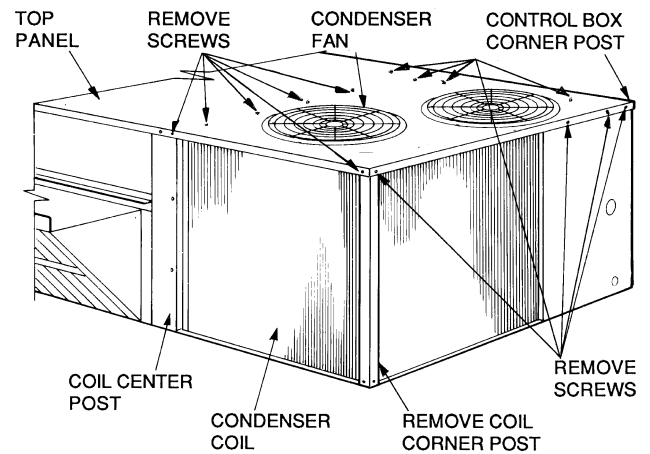
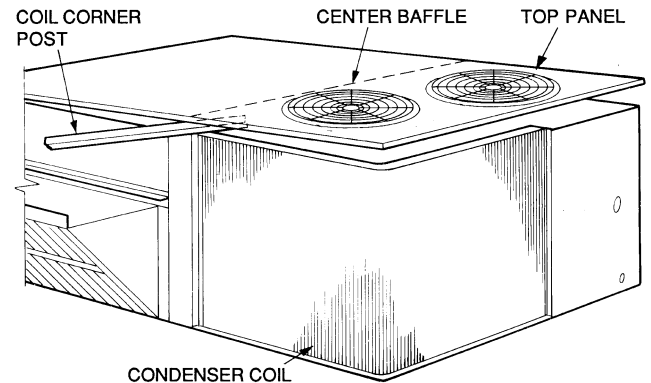

Fig. 37 — Cleaning Condenser Coil
Fig. 38 — Propping Up Top Panel
3. Remove condenser coil corner post. See Fig. 37. To hold top panel open, place coil corner post between top panel and center post. See Fig. 38.